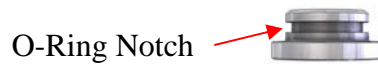

Figure 46: Center Bushing O-Ring Notch
7. Carefully place the center bushing o-ring onto the center bushing. The o-ring should reside in a notch on the center bushing. See Figure 46.